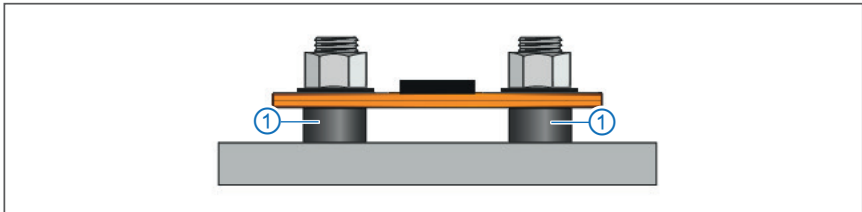
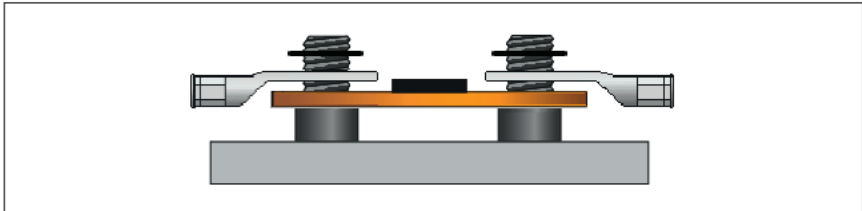
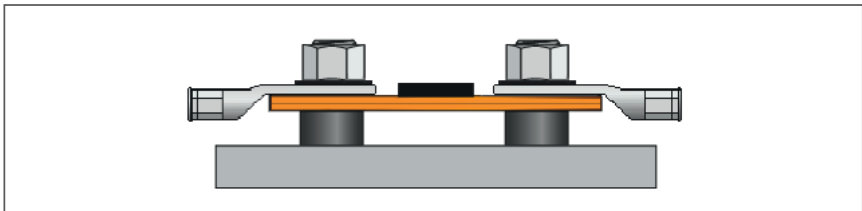

Fig. 5-5: HV BM 1.2+S, shunt module mounted on spacer sleeves
Fig. 5-6: HV BM 1.2+S, placing ring terminals and washers on the threaded bolts
Fig. 5-7: HV BM 1.2+S, fastening the ring terminals with the M8 nuts
Fig. 5-5 shows the shunt module for measuring the inner conductor current. The shunt module rests on the spacer sleeves ①, regardless of the cross-section of the HV power cables that are used. The ring terminals are placed on the shunt modules as shown in Fig. 5-6 and Fig. 5-7 and fastened with M8 nuts.
☞ Place the ring terminals on the shunt module as shown in Fig. 5-6.